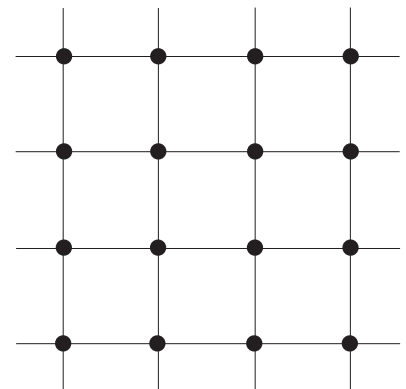

Figure 6
4. Do not hold air brush too close to the paper or hold the finger lever all the way back and down. This action will cause "puddles" to form and spread. See Figures 6 and 7.